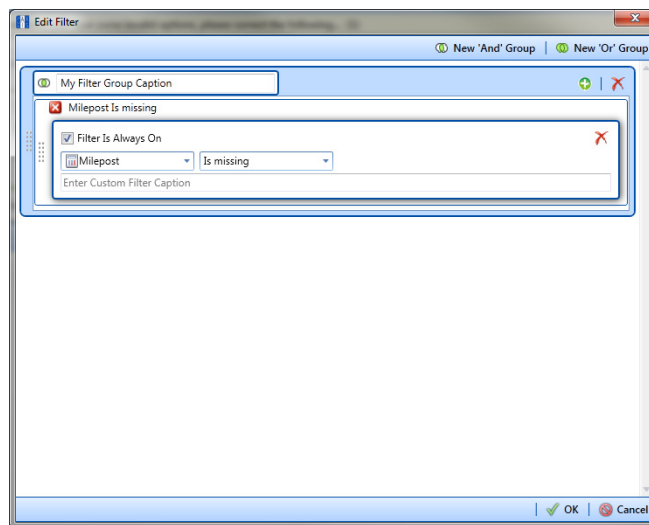

Figure 10-30. New 'And' Filter Group
- a Click  **New 'And' Group** to open the filter properties group box (Figure 10-30).